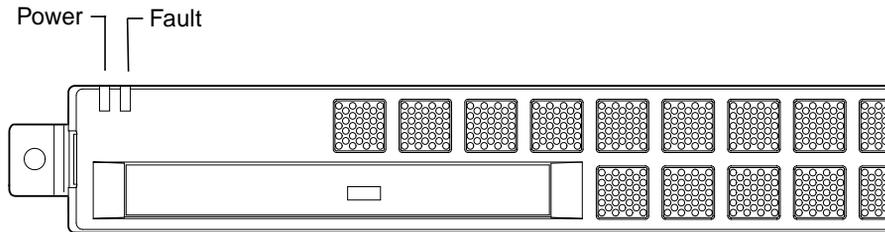

FIGURE 10-1 Front Panel Power and Fault LEDs
- **A Power LED** (see FIGURE 10-1)
- **A Fault LED** (see FIGURE 10-1)